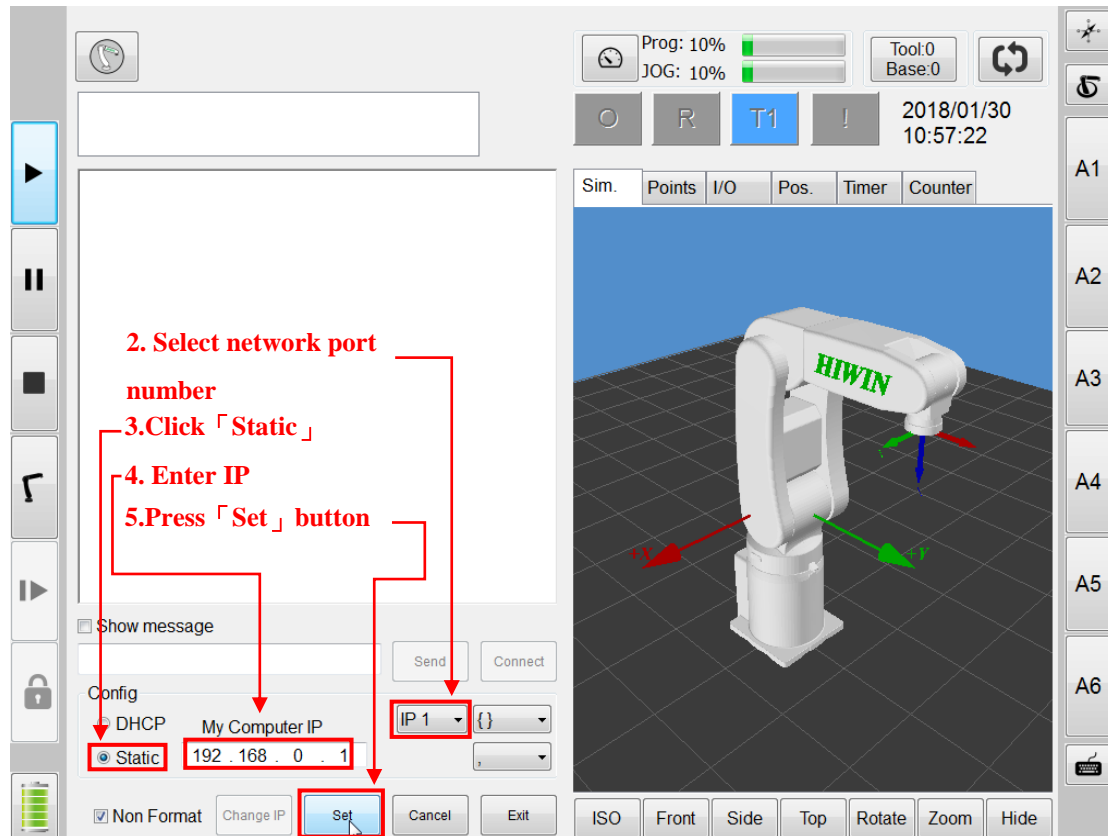

Figure 4-11 Set local network communication port IP
2. Select the network IP number as shown in Figure 4-11. Please refer to "4.2 Network Cable Connection" for instructions.